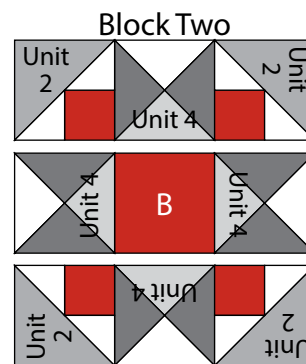

Fig. 6
6. Sew (1) Unit 2 square to each side of (1) Unit 4 square to make the top row. Repeat to make the bottom row. Sew (1) Unit 4 square to each side of (1) $6\frac{1}{2}$ " Fabric B square to make the middle row. Sew together the (3) rows lengthwise to make (1) $18\frac{1}{2}$ " Block Two square (Fig. 6).